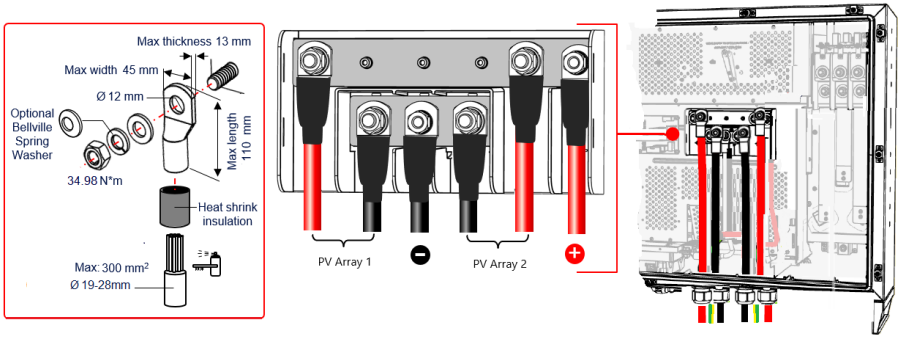

Figure 23: Connecting the DC wires to the Inverter
6. Connect the DC wires to the DC bus-bar according to the labels on the terminals. Tighten the nuts to 34.98 N*m (see *Figure 23*).